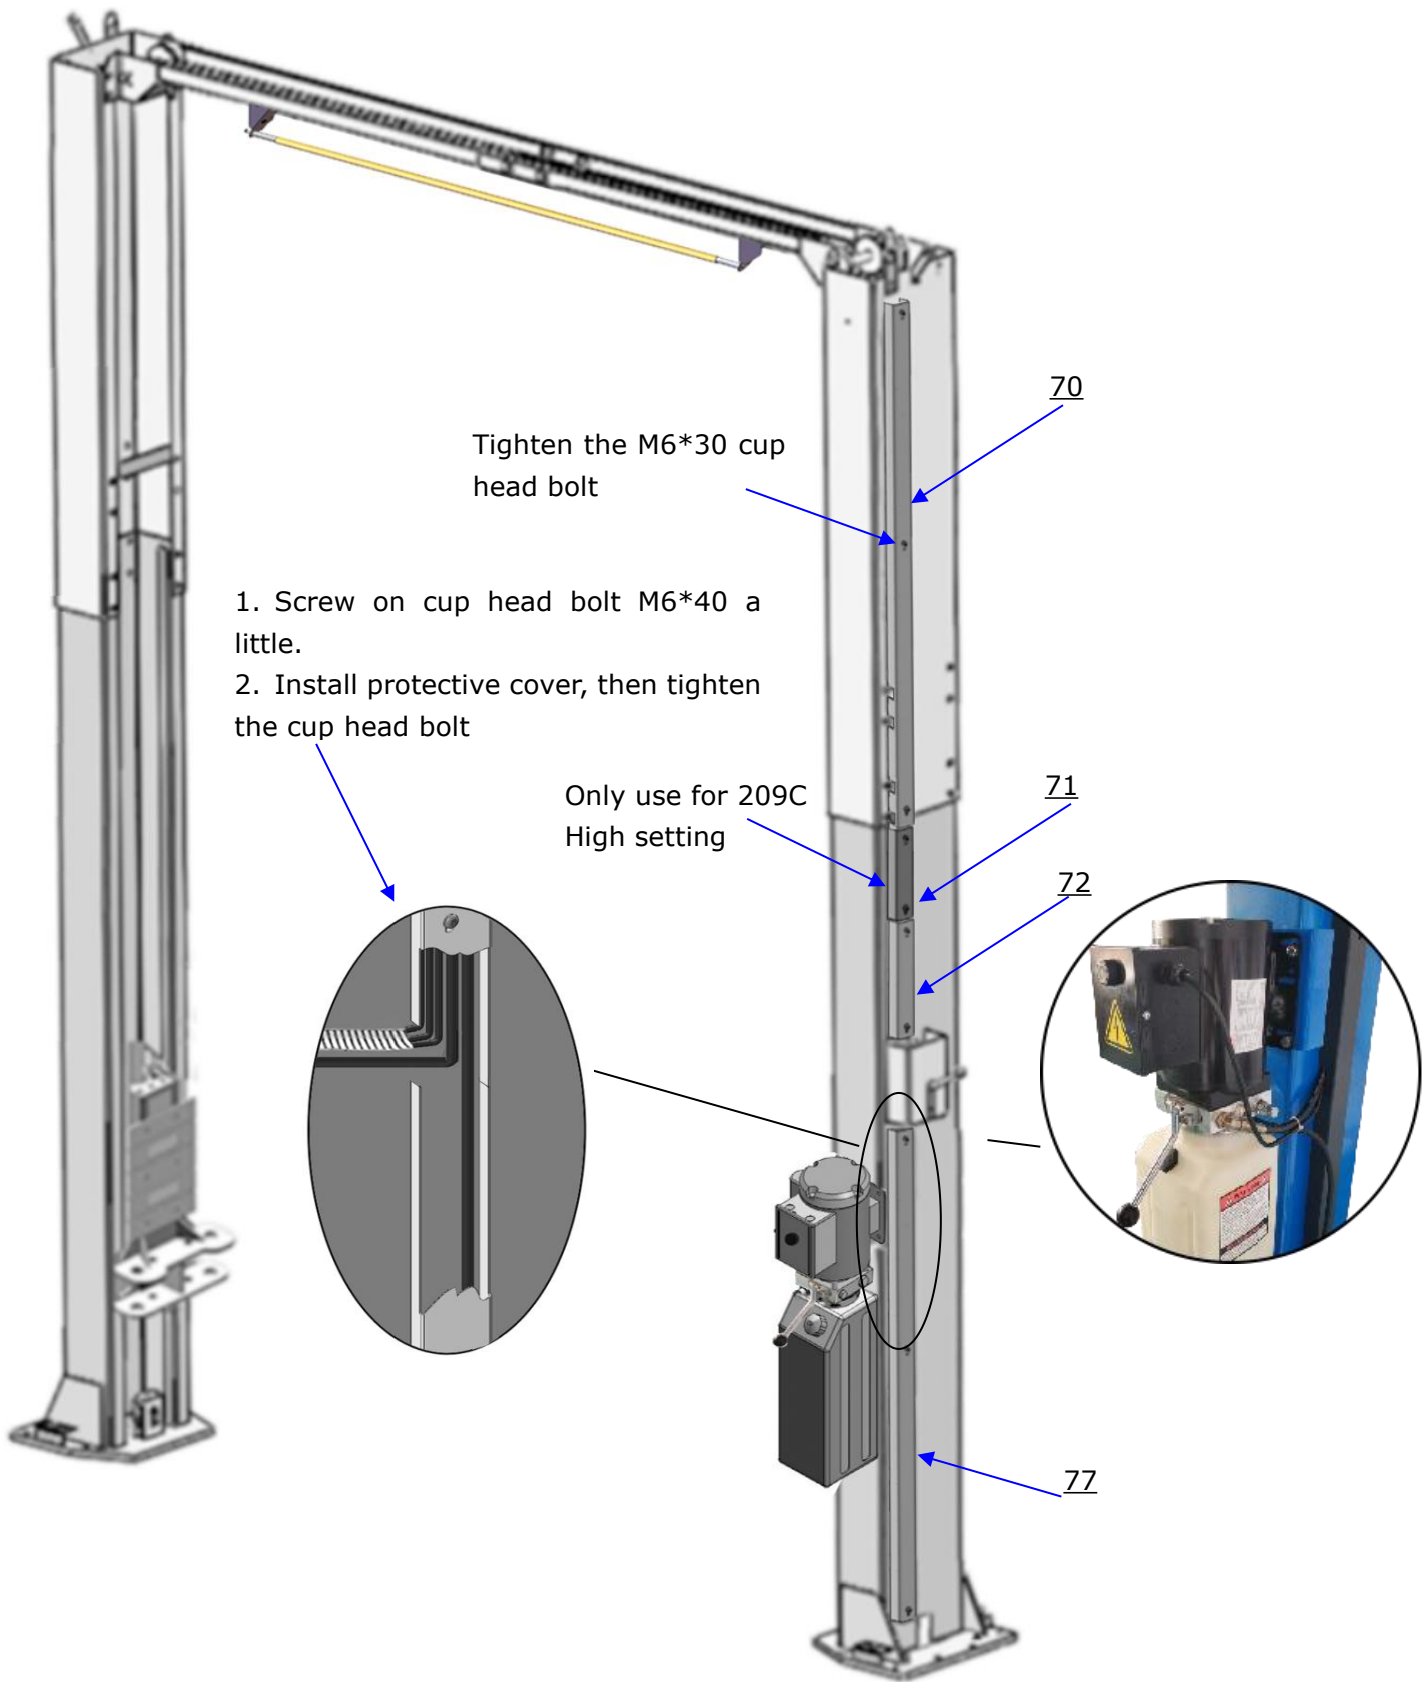

Fig.29
M. Install protective cover Fig.29